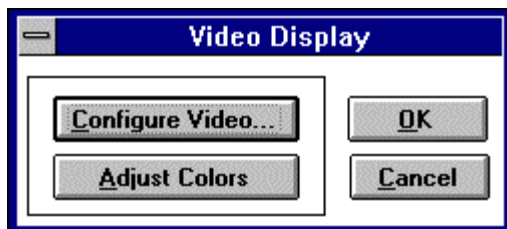

Figure 3-21.
3. To configure video or adjust colors, **CLICK** on “Video Display” under Options (see Figure 3-21).